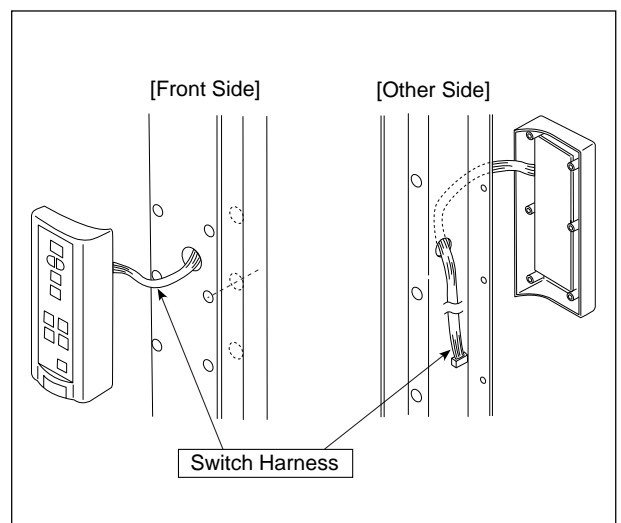

Fig. 8
- Pay attention to a kind of screw. (See Fig. 8.)